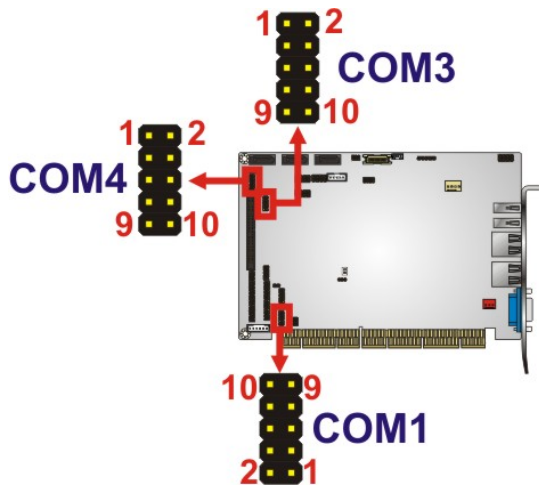

Figure 3-17: RS-232 Connector Pinout Locations
- CN Location:** See **Figure 3-17**